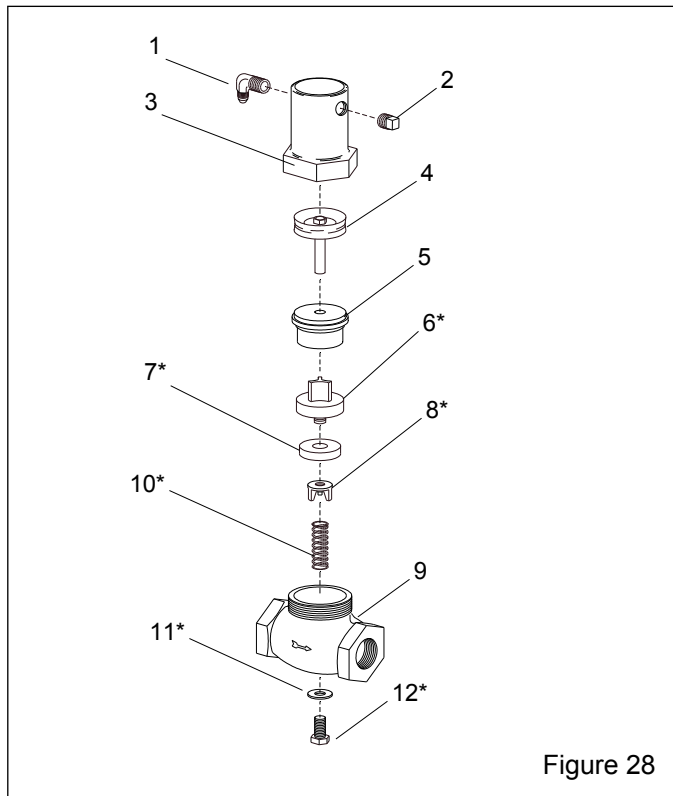

Figure 28
9.2 1" Piston Outlet Valve, Figure 28